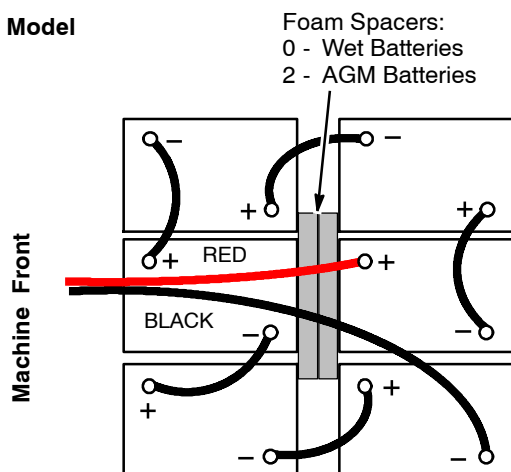

FIG. 3
3. With adequate assistance carefully install the batteries into the battery compartment. Arrange the batteries as shown (Figure 3).
4. To keep the batteries from moving, position the supplied foam battery spacers as shown (Figure 3).
5. Using the supplied battery post boots, connect the cables to the battery posts as shown (Figure 3). Connect the machine's black (-) battery cable last. Use insulated tools when working near batteries.